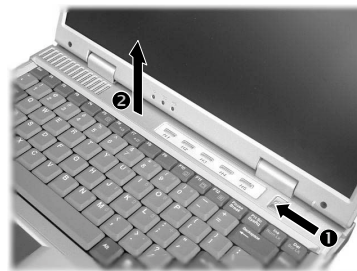

Figure 2-3 Remove KB cover
2. Open the top cover. Push the rod firmly and slide the KB cover to the left (❶). Then lift the KB cover up from the left side (❷) (Figure 2-3)